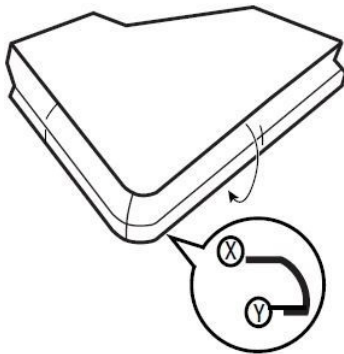

Figure 13. Apply adhesion promoter between X and Y.
2. Apply adhesion promoter to the edges, starting about 1/2 in. (1.2 cm) from where the shape changes (see Reference X in Figure 13) and extending to the back side of the surface for at least 1/2 in. (1.2 cm) (see Reference Y in Figure 13).